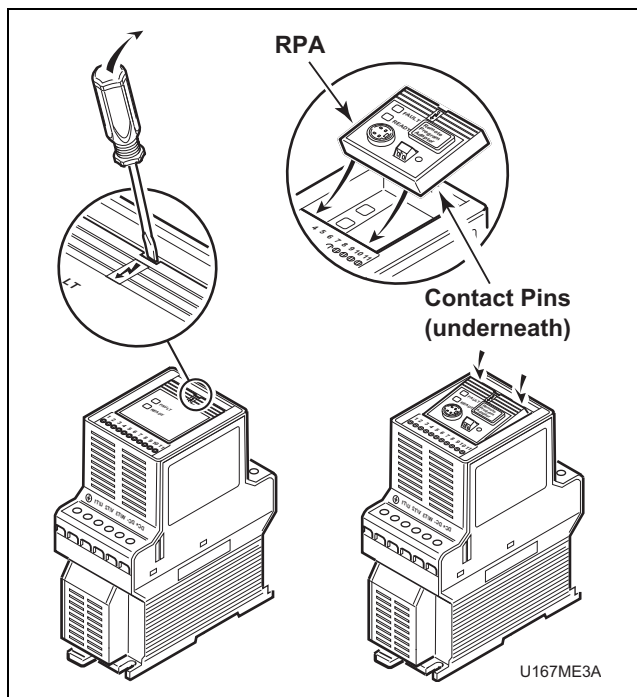

Figure 32
2. Insert a small screwdriver into slot, pry back, and remove status display cover. Refer to *Figure 32*.
2. Insert small screwdriver into slot, pry back, and pivot module out. Avoid bending or twisting contact pins located underneath center portion of the module. Refer to *Figure 32*.